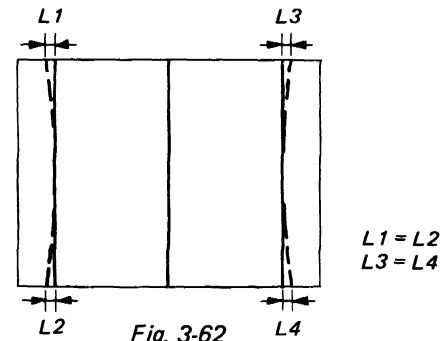

Fig. 3-62
- (11) When the red vertical center line slants, adjust RV5508 (H SKEW (R)).
- (12) Adjust RV5512 (H SUB SKEW (R)) so that "L1" ("L3") is equal to "L2" ("L4") as shown in Fig. 3-62.